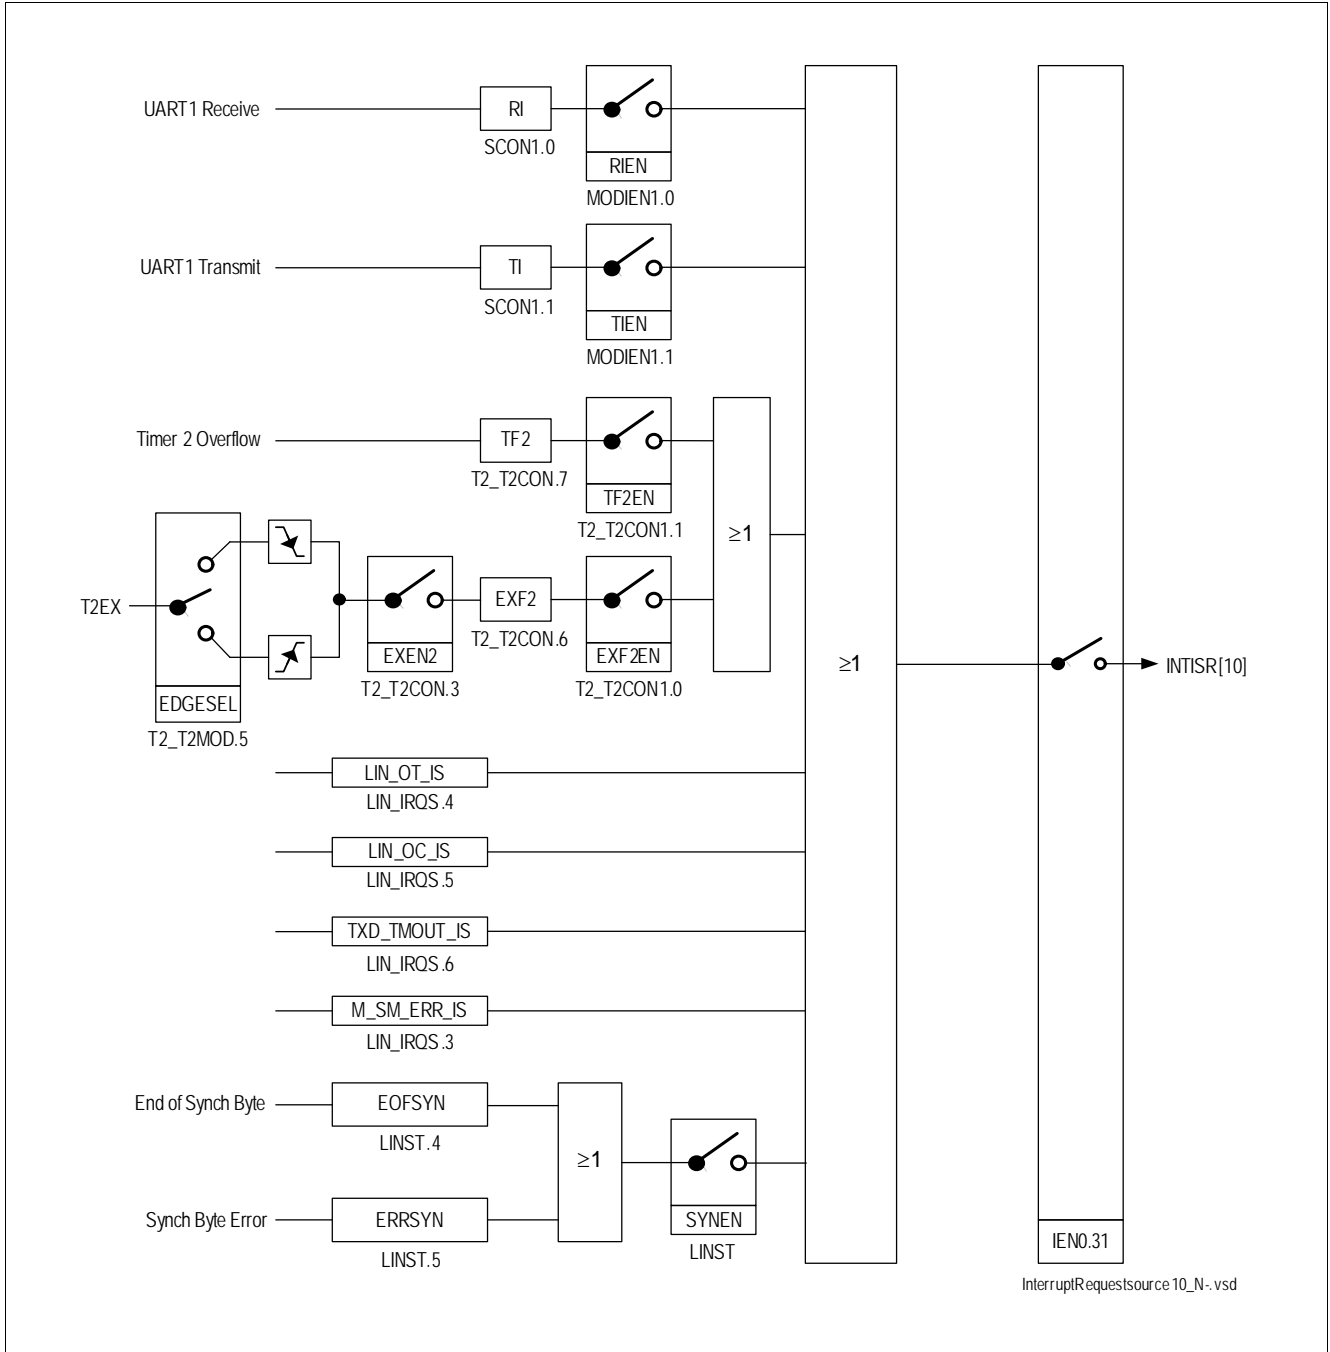
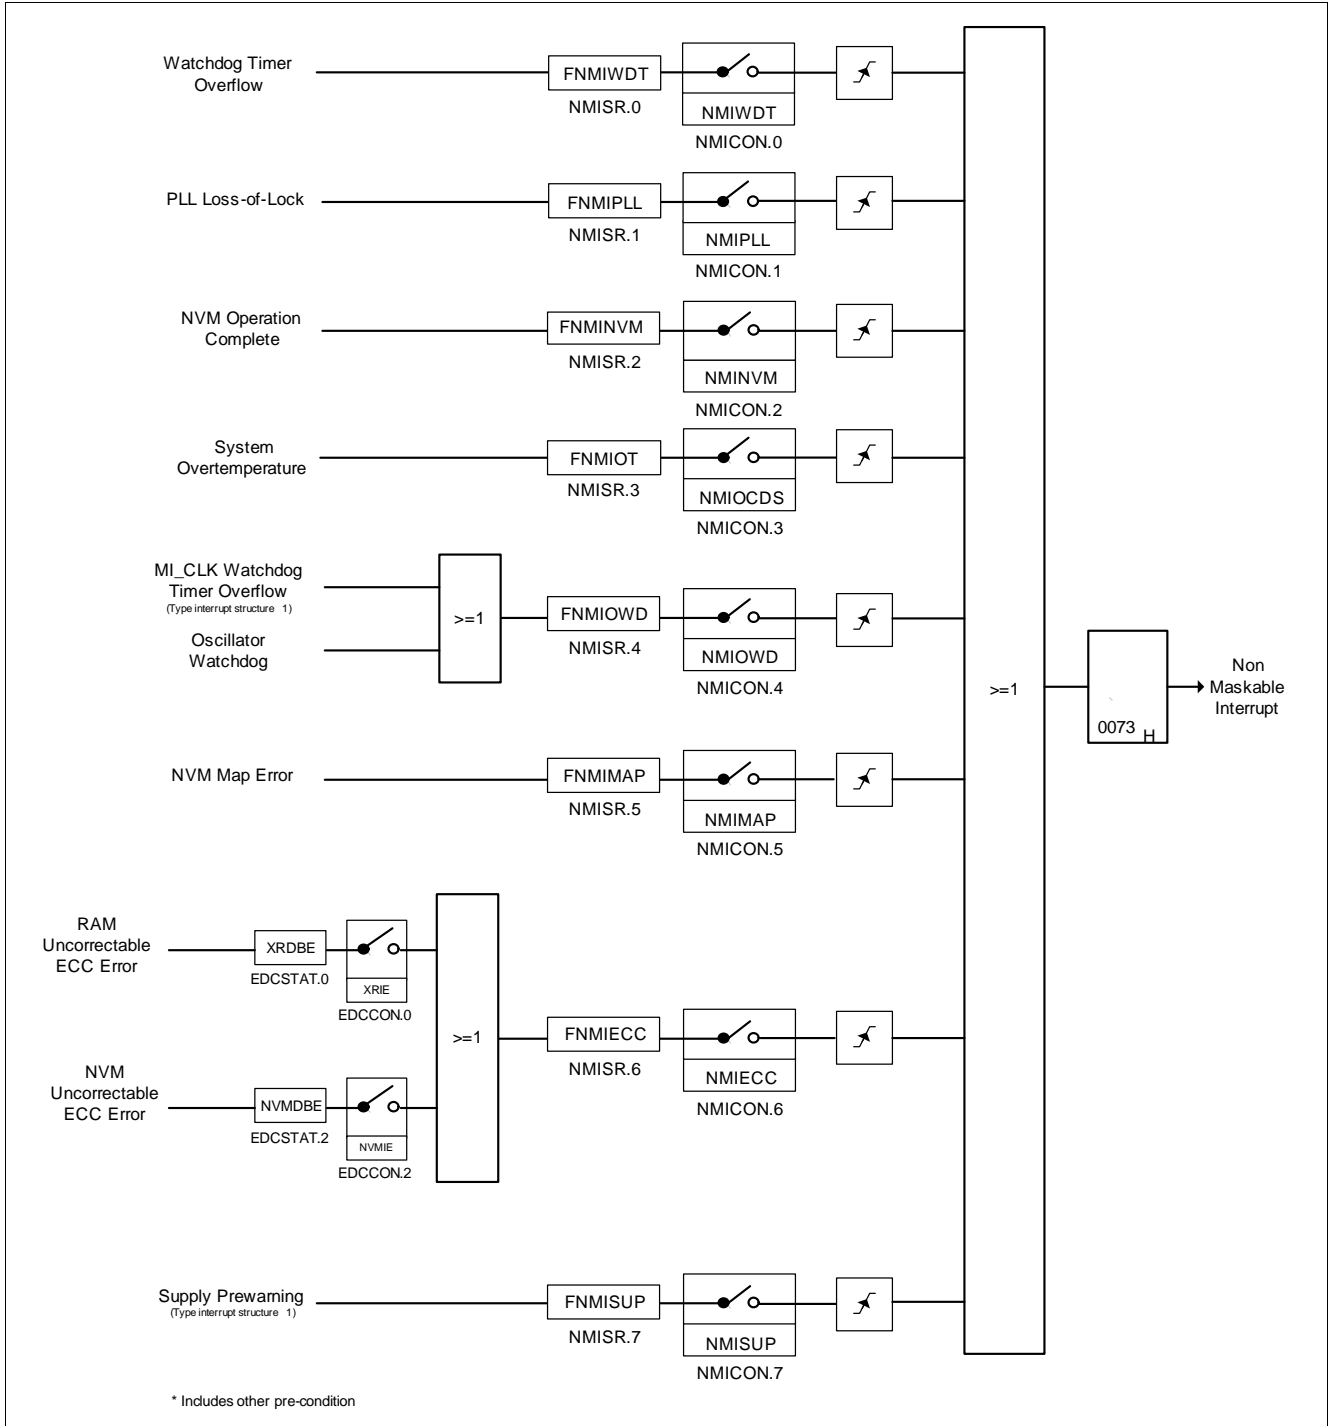

Figure 64 Interrupt Request Source 10 (UART1)
Figure 72 Non-Maskable Interrupt Request Source
**Figure 1**, **Figure 62**, **Figure 5**, **Figure 6** and **Figure 64** give a general overview of the interrupt sources and nodes, and their corresponding control and status flags. **Figure 72** gives the corresponding overview for the NMI sources. The table below shows the available interrupt vectors.